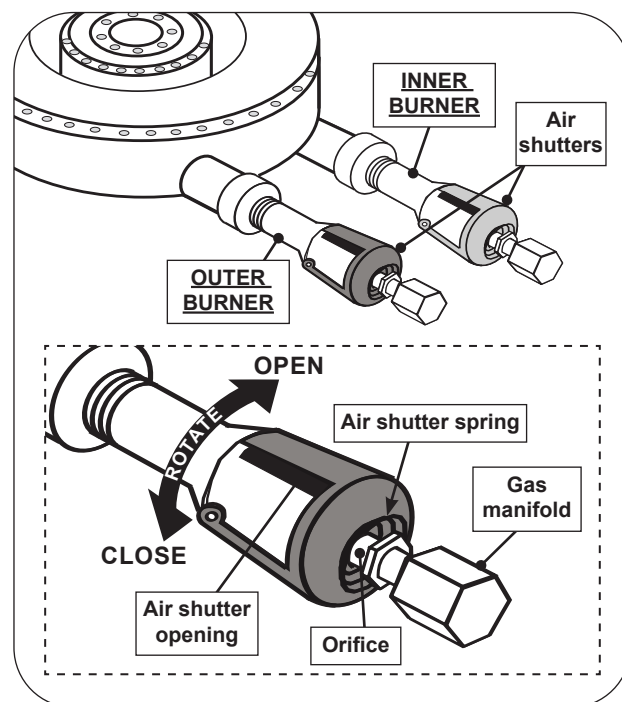

Fig. 46-1 Power burner air shutter adjustment detail
1. To adjust the air shutters, rotate the shutters to open or close them. See Fig. 46-1 for details.